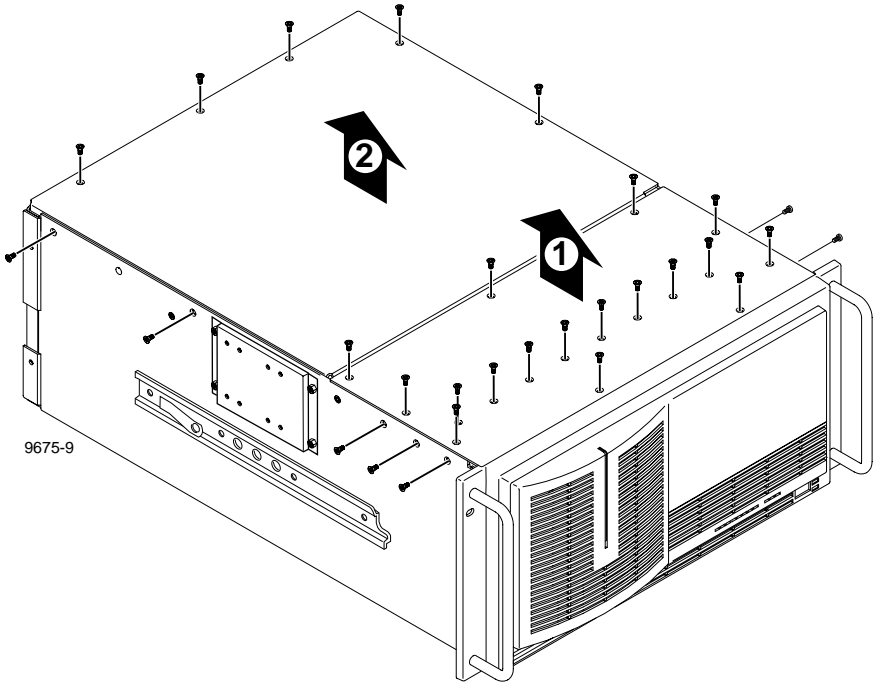

Figure 1. Removing the front and rear chassis covers
NOTE: The front chassis cover must be removed first because it overlaps the rear chassis cover (② in Figure 1).
2. Use the Torx tool with the T10 tip to remove the top screws from the front chassis cover (① in Figure 1) and then use the T15 tip to remove the pan-headed side screws.
NOTE: Take care not to lose these chassis screws. They are required to meet the EMI specifications for the Profile system. Also, not all the screws shown in Figure 1, are present on a PDR100.
3. Use the Torx tool with the T10 tip to remove the rear chassis cover (② in Figure 1) which covers the circuit boards.